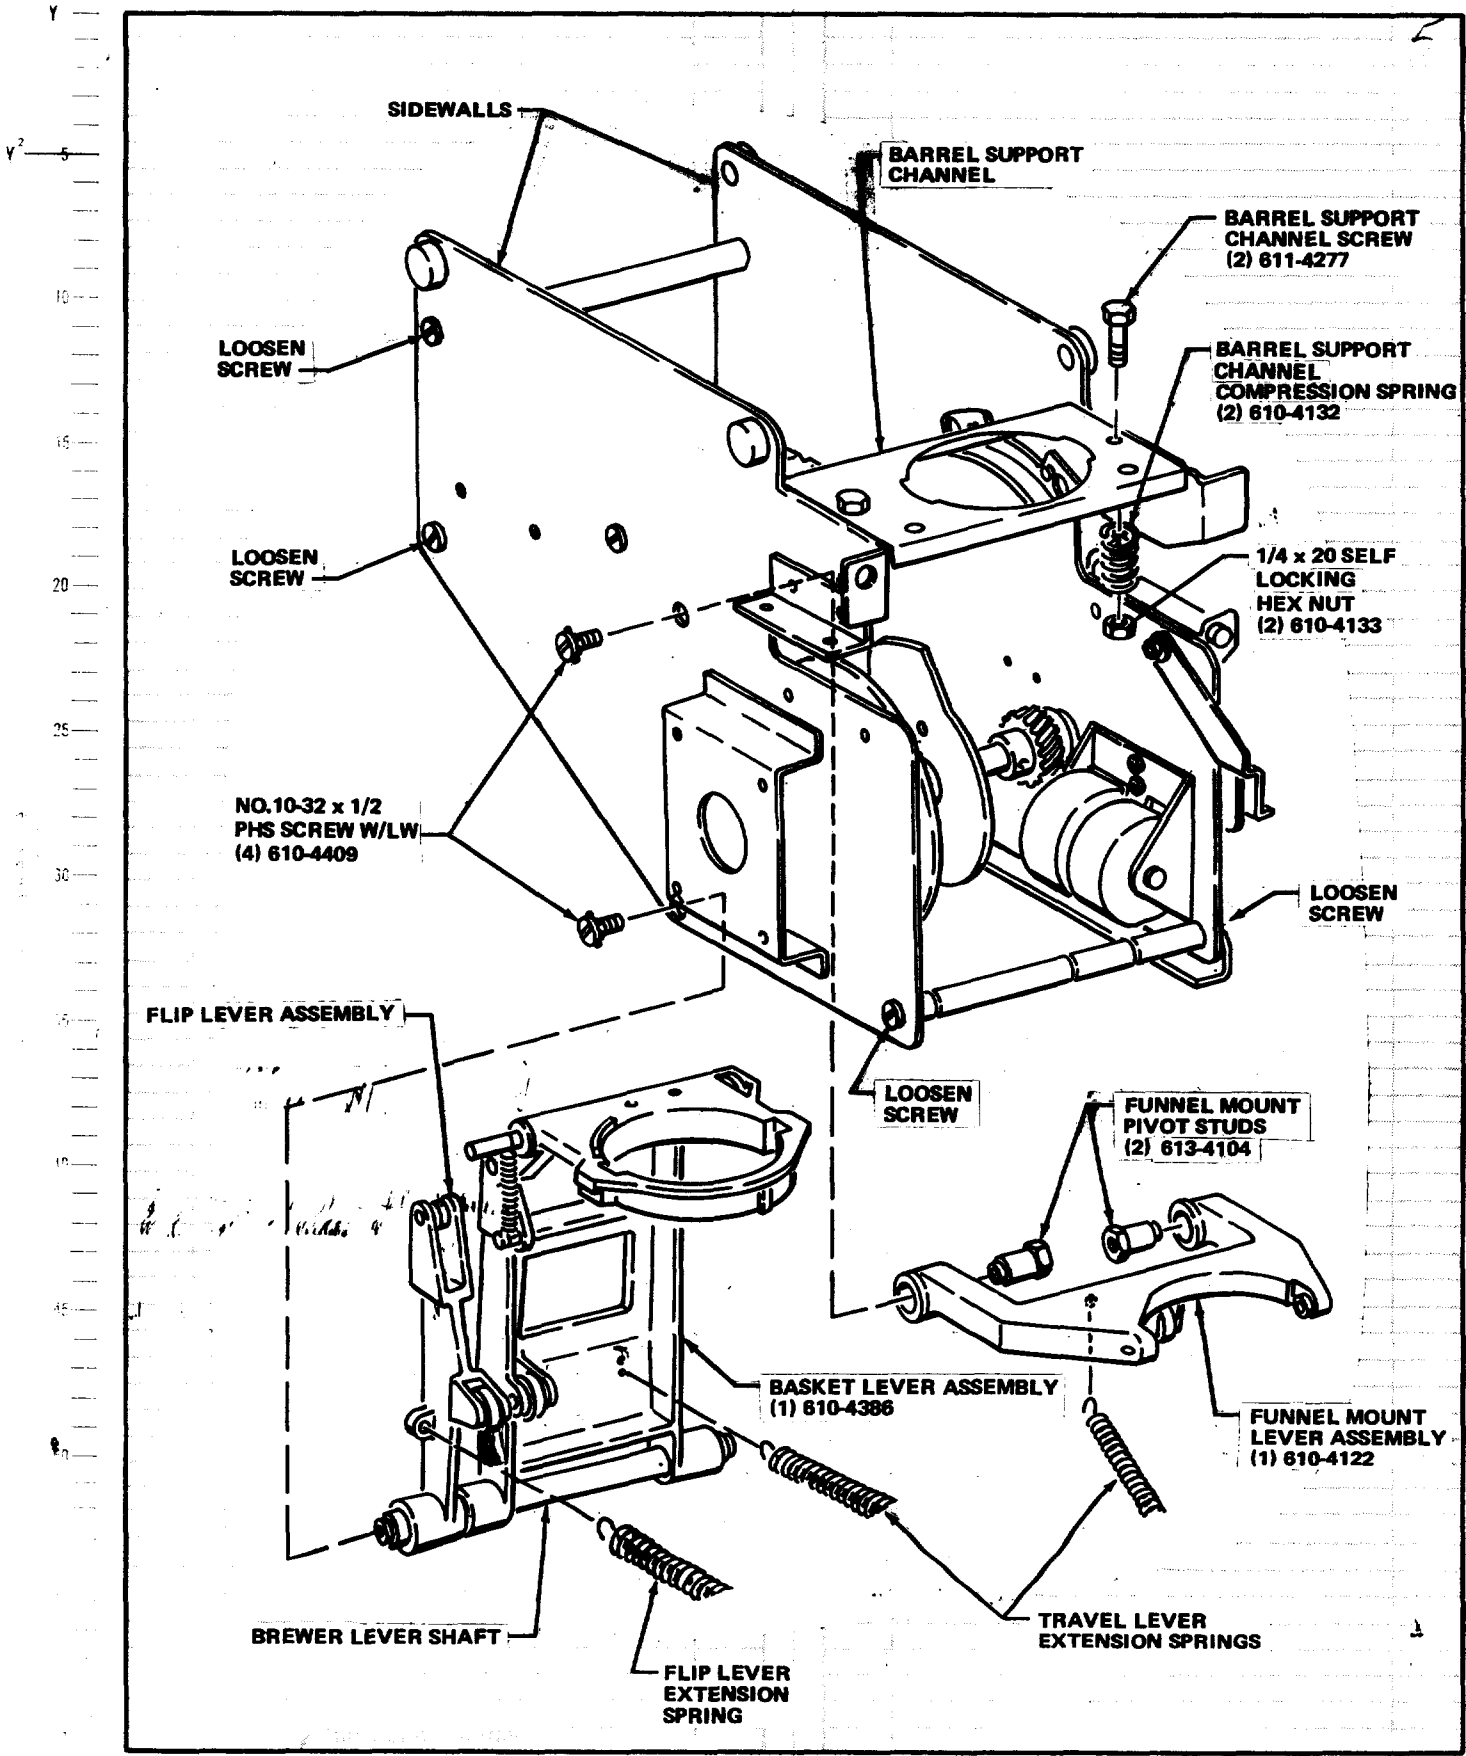
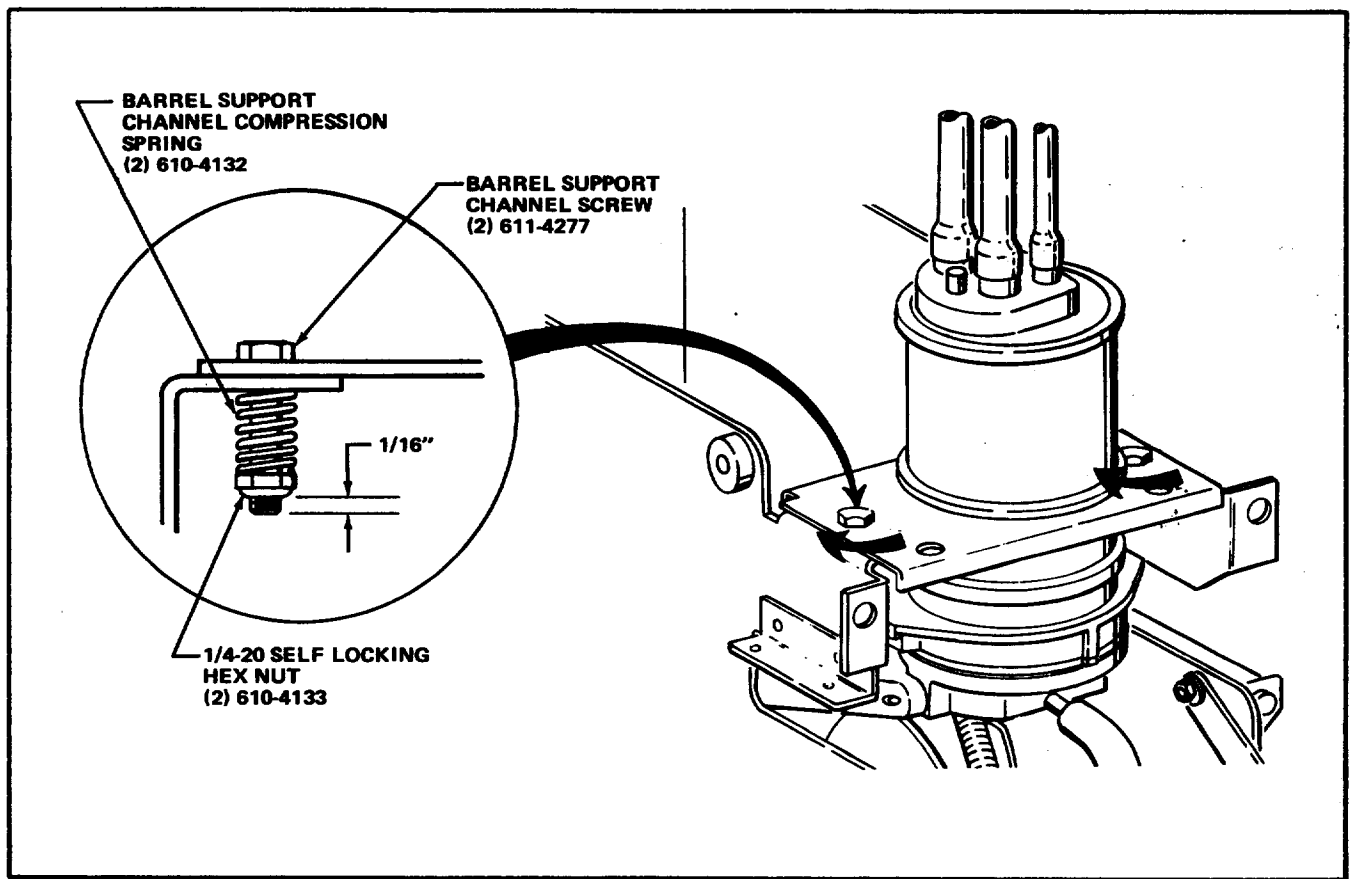

FIGURE 6
FIGURE 7
22. Slightly loosen the six No.10-32 x 1/2 PHS Screws with Lockwashers attaching the two rear Brewer Lever Shafts and the front Spring Mounting Spacer. See Figure 6.
23. Remove the Flip Lever Assembly, Basket Lever Assembly, and Brewer Lever Shaft by removing the two No.10-32 x 1/2 PHS Screws with Lockwashers. See Figure 6.
24. Remove the Funnel Mount Lever Assembly, and the two Funnel Mount Pivot Studs by removing the two No.10-32 x 1/2 PHS Screws Lockwashers. See Figure 6.
25. Remove the two 1/4-20 Self Locking Hex Nuts, two Barrel Support Channel Compression Springs and two Barrel Support Channel Screws attaching the Barrel Support Channel to the Sidewalls. See Figure 6.
1. Attach the Barrel Support Channel to the Sidewalls and secure with the two replacement Barrel Support Channel Screws, Part Number 611-4277, two Barrel Support Channel Compression Springs, Part Number 610-4132, and two 1/4-20 Self Locking Hex Nuts, Part Number 610-4133 all included in the Kit. See Figure 6. Tighten the 1/4-20 Self Locking Hex Nuts until the Barrel Support Channel Screws extend 1/16-inch beyond the Hex Nuts. See insert in Figure 7.
2. Install the replacement Funnel Mount Lever Assembly, Part Number 610-4122, and the two replacement Funnel Mount Pivot Studs, Part Number 613-4104, in the Brewer Mechanism and secure with two No.10-32 x 1/2 PHS Screws with Lockwashers, Part Number 610-4409, all included in the Kit. See Figure 6.
6. Tighten the six No.10-32 x 1/2 PHS Screws which secure the two rear Brewer Lever Shafts and the front Spring Mounting Spacer. See Figure 6.
18. Install the longer Flip Lever Extension Spring, from the groove in the left side of the Spring Mounting Spacer to the hole in the Flip Lever Assembly. See Figure 6.
19. Install the Travel Lever Extension Spring, from the middle groove in the Spring Mounting Spacer to the hole in the Funnel Mount Lever Assembly. See Figure 6.
20. Install the second Travel Lever Extension Spring, from the groove in the right side of the Spring Mounting Spacer to the hole in the Basket Lever Assembly. See Figure 6.
33. If a leak is noticed, tighten the two Barrel Support Channel Screws by rotating both Screws one-half turn in a clockwise direction. See Figure 7.